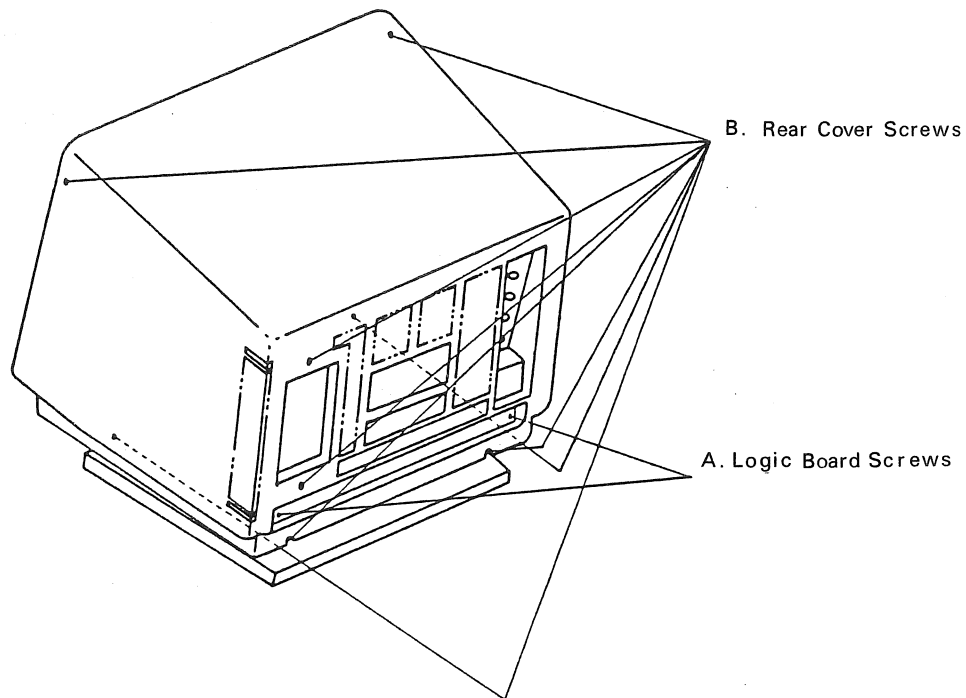

Fig. 2-5-1
(1) The logic board can be dismantled according to the following procedures:
- Remove two screws marked with A. (See Fig. 2-5-1.)
(2) The rear cover can be separated from the front according to the following procedure:
- Remove 8 screws marked with B. (See Fig. 2-5-1.)